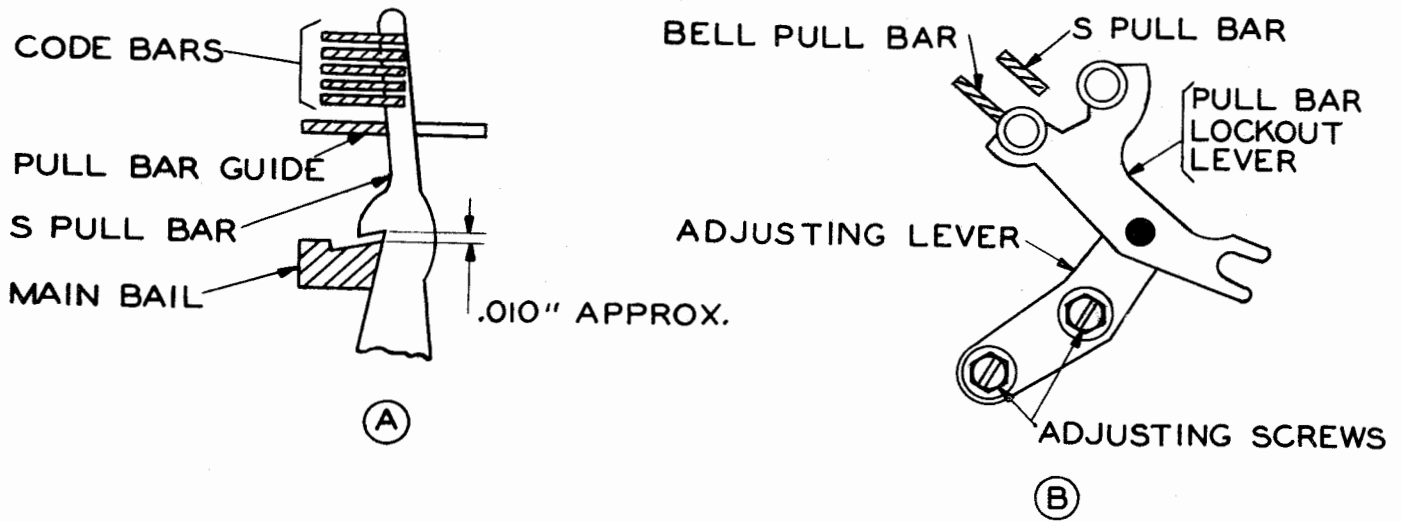

Figure 20
- (b) With the platen in the FIGS position, select the BELL combination and rotate the main shaft until the main bail is approximately 0.010 inch from the BELL pullbar notch [Figure 20(A)]. There shall be at least 0.010 inch clearance between the BELL pullbar and the
lockout-lever roller [Figure 20(B)], with the play of the platen shaft, shift rocker, and lockout lever taken up in a direction to make this clearance a minimum. Gauge by eye. See Figures 20(A) and 20(B).